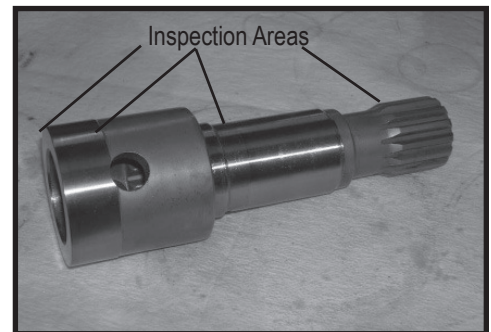

Figure 21
15. Remove coupling shaft (12), by pushing on the output end of shaft. SEE FIGURE 20. Inspect coupling shaft bearing and seal surfaces for spalling, nicks, grooves, severe wear or corrosion and discoloration. Inspect for damaged or worn internal and external splines or keyway. SEE FIGURE 21. Replace coupling shaft if any of these conditions exist.